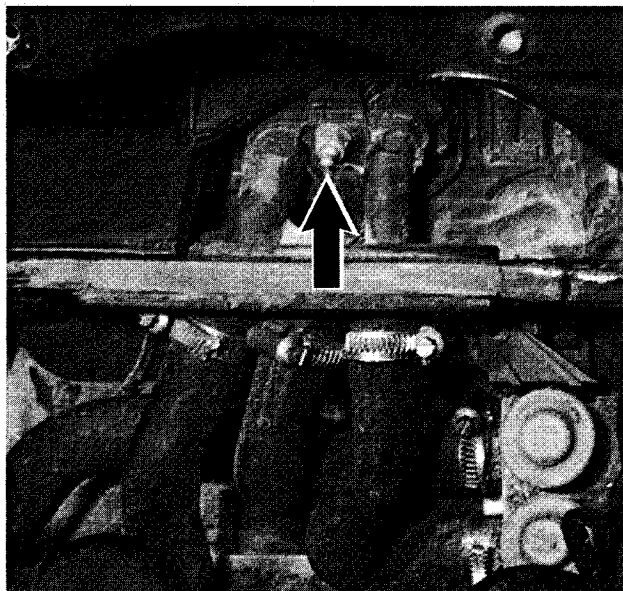

Fig. 9. Nut retaining coolant hose flange at bulkhead (arrow).
4. Remove nut retaining water hose flange to rear bulkhead. Push flange to one side. See Fig. 9.